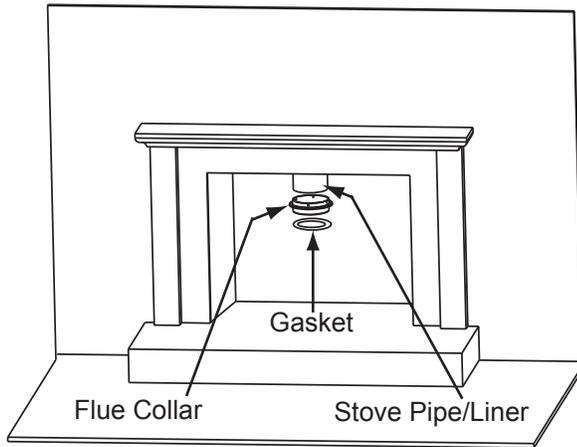

Figure 39.1
1. There are 4 pre-drilled holes in the flue collar 90 degrees apart. Attach the flue collar to the stove pipe/liner. If the seal is questionable use high temperature sealant such as stove mastic **Figure 39.1**.